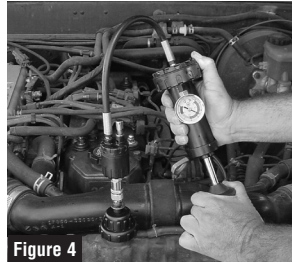

Figure 4
4. Examine the vehicle's service information and radiator cap to determine the proper system pressure. Pump the handle of the pressure tester until the needle of the gauge indicates the rated pressure of the system. See Figure 4.